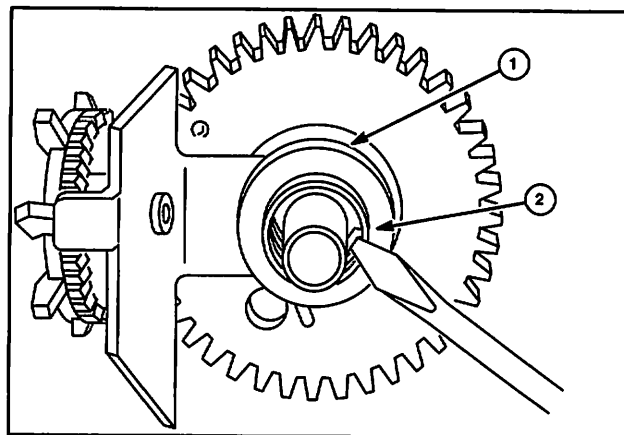

Fig. 56
- Use thin blade screwdriver or similar tool to pry lower clutch spring tab (2) out of hole in clutch sleeve (1), Fig. 56.